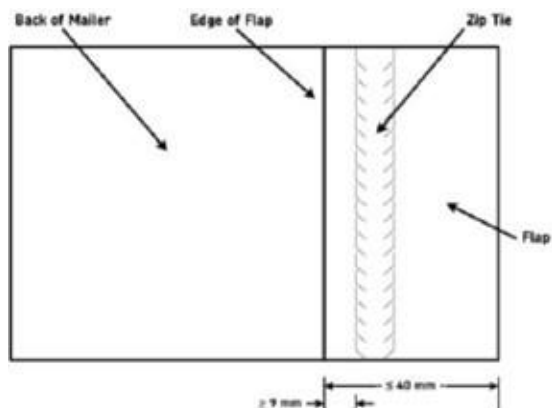

Figure 11 Perforation positioning
- The zip tie is located on a flap that is $\leq 40\text{mm}$ wide, as illustrated in **Figure 11** and
- The zip tie is positioned $\geq 9\text{mm}$ from the edge of the flap, as illustrated in **Figure 11**